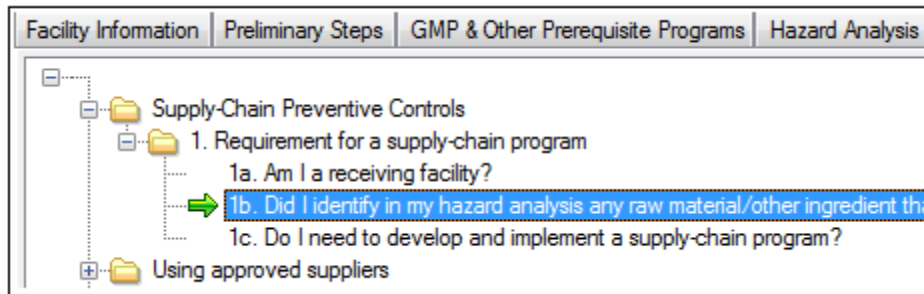

Figure 63: Requirement for a Supply-Chain Program
***Note:** One or multiple suppliers can be added (Figure 63).